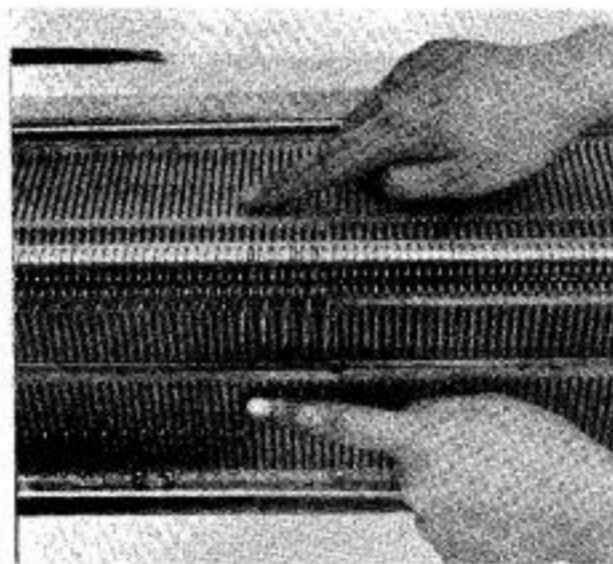

Fig. 80
1. At the end opposite to the carriage, bring forward into Holding Position (E) the required number of machine needles and also bring upward into Holding Position (E) the corresponding number of ribber needles. (Fig. 80)